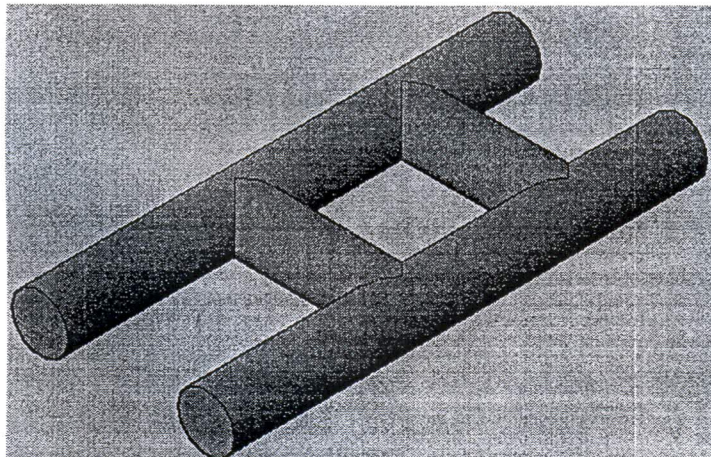

Figure 4: Tube Structure
- (c) One of the devices that uses in Figure 4 is the Magnetic Clamps; sketch and explain its usage briefly.